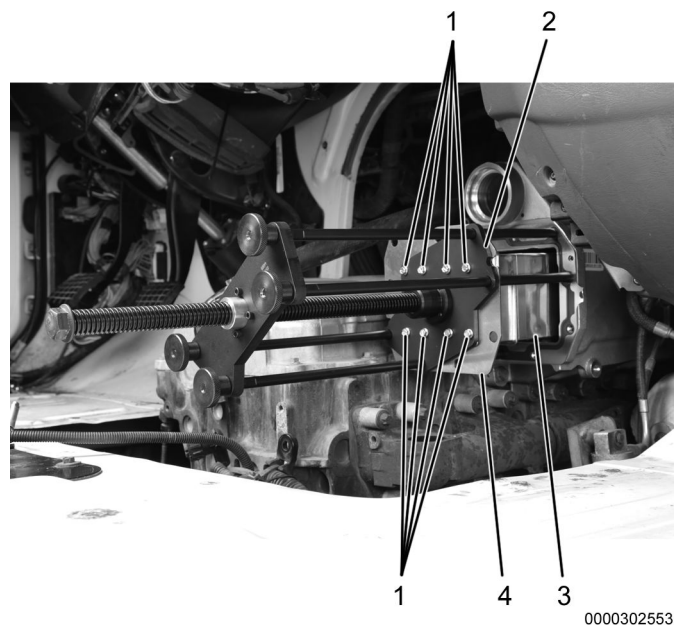

Figure 6. Self-Tapping Screw Installation.
6. Install 8 self-tapping screws (Figure 6, Item 1) into HT EGR cooler core (Figure 6, Item 3) until HT EGR cooler core flange (Figure 6, Item 4) is up against back of removal plate (Figure 6, Item 2).